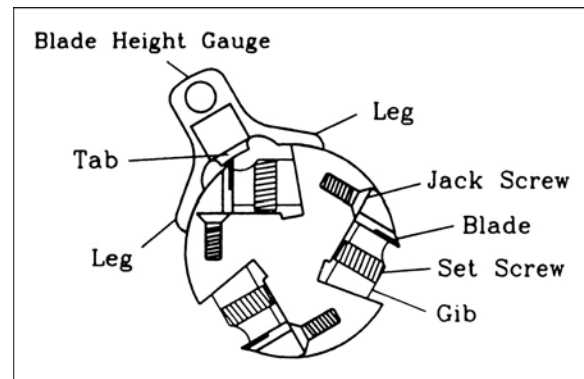

Figure 8
7. Raise or lower knife by turning jack screw. Knife is at correct height when knife tip just touches center tip of knife gauge (Figure 8).